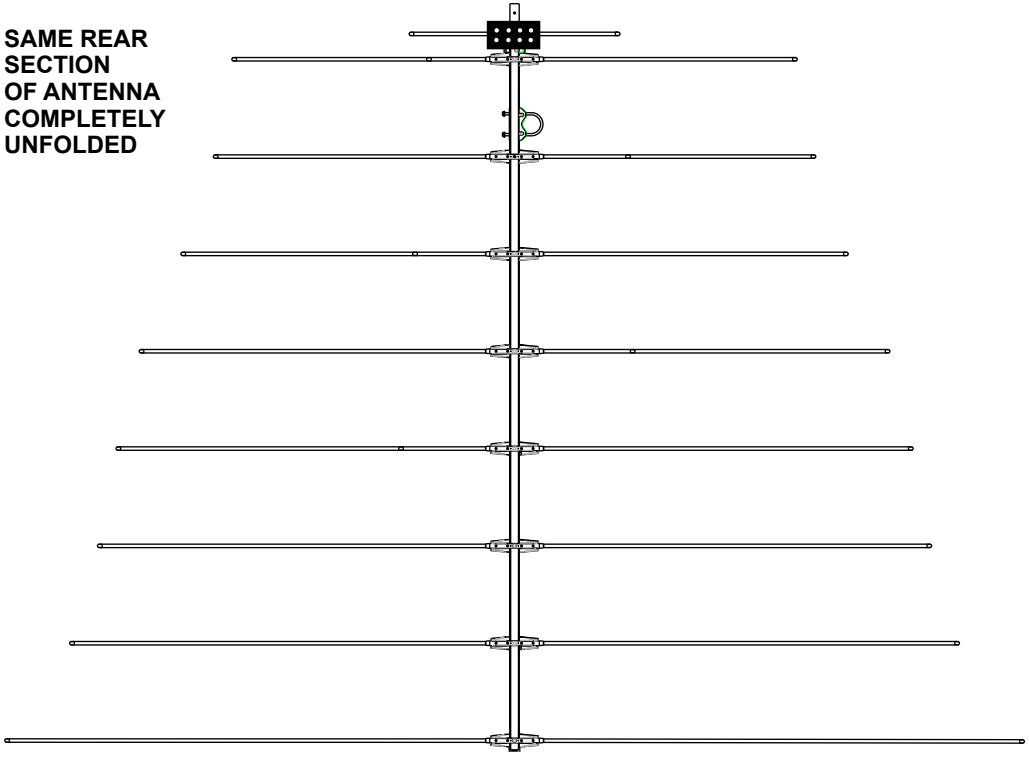

Fig. 2 REMOVE BOLT, HEX NUT AND DIRECTOR ELEMENT.
C. Remove bolt, hex nut, and director element from front section boom. See **Fig. 2**.
- A. Slide the front boom into the rear boom making sure to feed the UHF phasing lines into the middle holes at the top of the cartridge housing and then into the slotted pegs inside the housing (see **Figure 2, 2A, 2B**). When finished, the phasing lines will be resting in the slots of the pegs but will not extend out of the back side of the cartridge housing. Reinstall the director element, bolt & nut. See **Fig. 2B**.